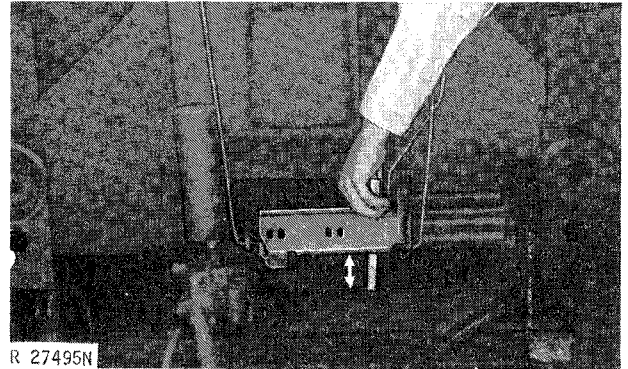

Fig. 7-Measuring Placement of Hydraulic Control Inner Support
26. Measure distance between hydraulic control inner support and Sound-Gard Body to insure that support is reinstalled in its original position (Fig. 7).